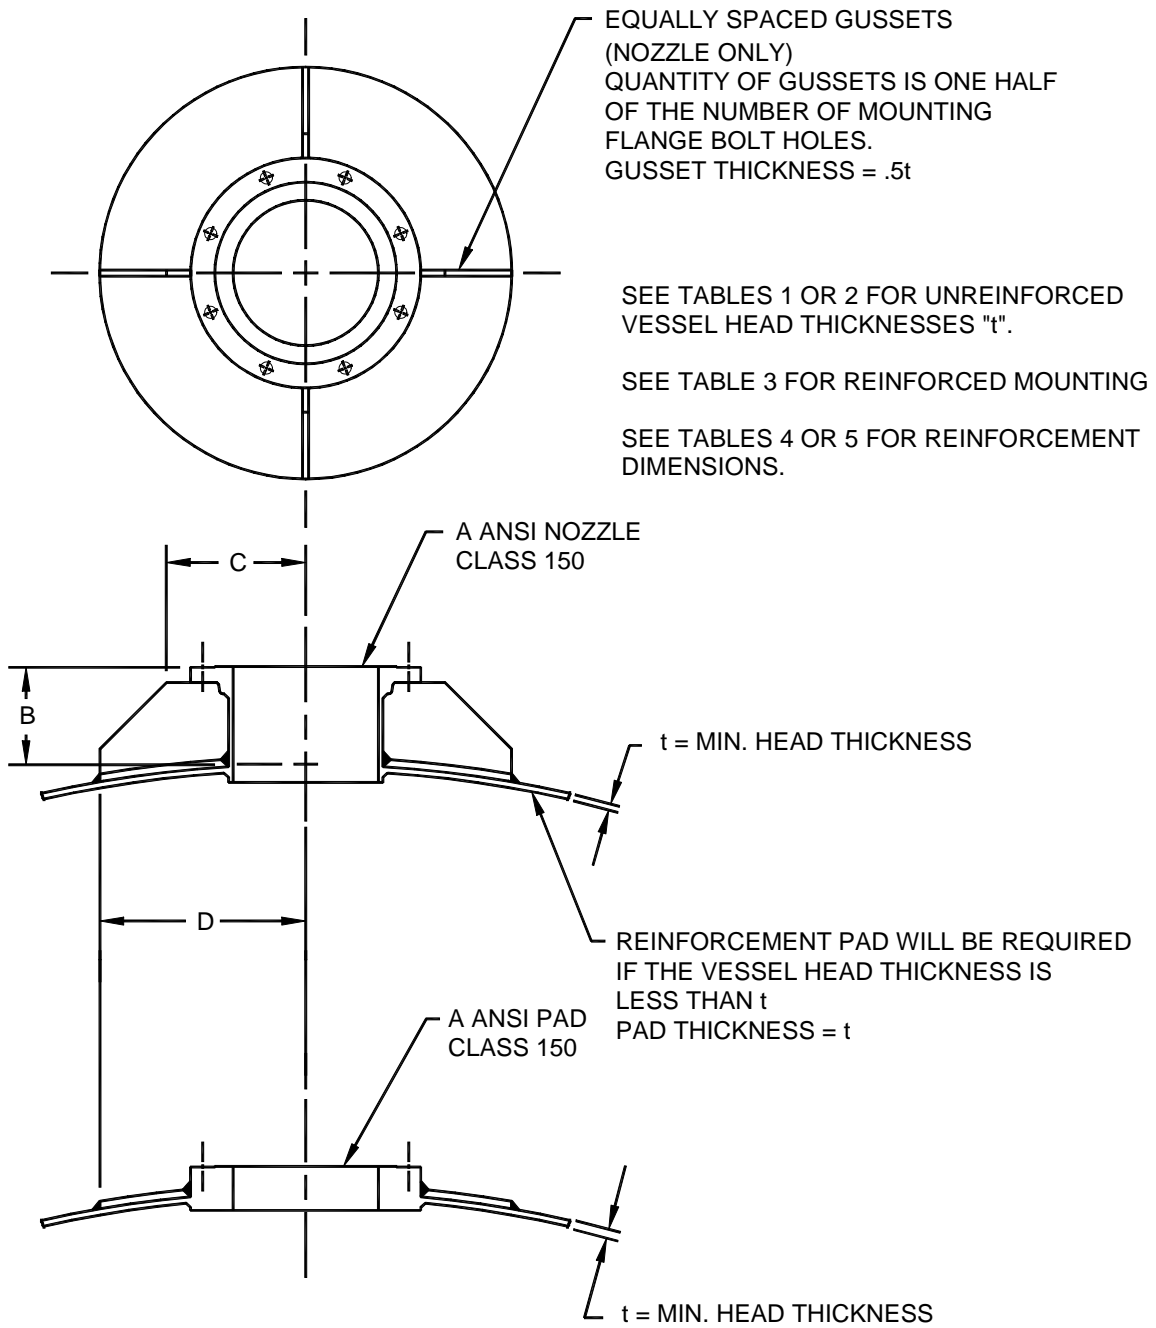

Figure 2: 50DTA, 50DTL Mounting, Nozzle/Pad
3. If reinforcement is applicable, refer to *Tables 4 and 5, below and Figure 2, page 6* for proper reinforcement dimensions.